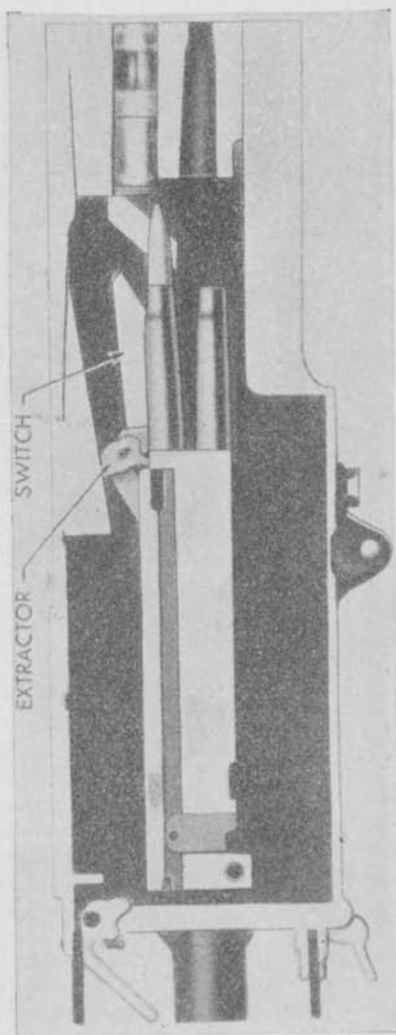

FIGURE 49.—Action of switch.
d. As the extractor is forced down, a lug on the side of the extractor rides against the top of the switch causing the switch to pivot downward at the rear, as can be seen in figure 49. Near the end of the rearward movement of the bolt the lug on the extractor overrides the end of the switch, and the switch snaps up to its normal position.